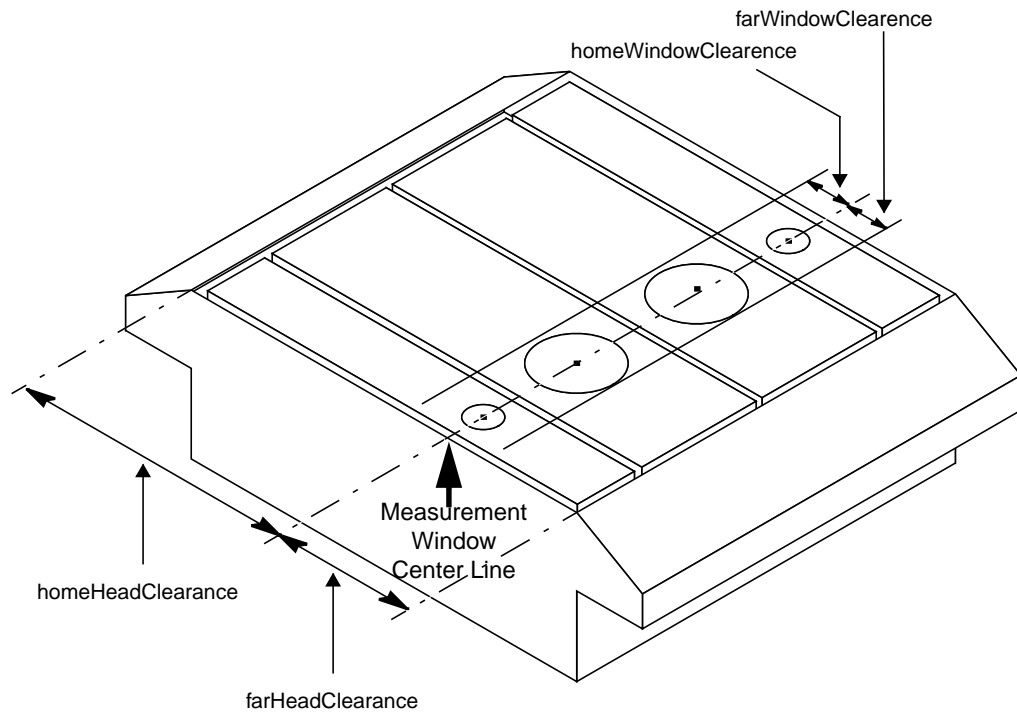

Figure 5-15 Location of Head Package Measurements
homeWindowClearance	This variable represents the distance, on the home-side of the head package, from the measurement center line to the edge of the largest sensor window in the head package. The window radii will range from approximately 0.5 in. for a Smart Ash sensor to 2.5 in. for a HemiPlus sensor (see Figure 5-15).
farWindowClearance	This variable represents the distance, on the far-side of the head package, from the measurement center line to the edge of the largest sensor window in the head. The window radii will range from approximately 0.5 in. for a Smart Ash sensor to 2.5 in. for a HemiPlus sensor (see Figure 5-15).
The locations of these positions on a Smart Platform sensor head package are shown in Figure 5-15 on page 98.
4. Determine the values for **farWindowClearance** and **homeWindowClearance** from Figure 5-15 on page 98. Table 5-2 on page 100 gives typical measurement area diameters for each sensor.